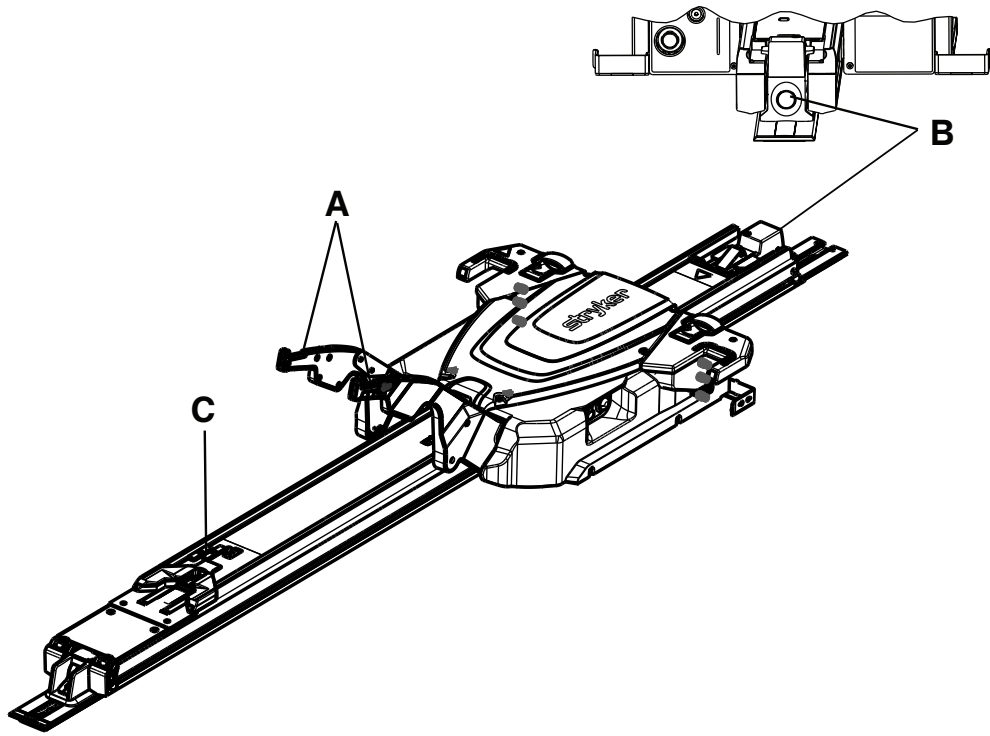

Figure 3 – Trolley mid transfer position
1. Raise the lifting arms (A) (Figure 3).
2. Press the trolley release button at the head end of the anchor (B) (Figure 3).
4. Slide the patient right transfer lock trigger (C) to extend (Figure 3).